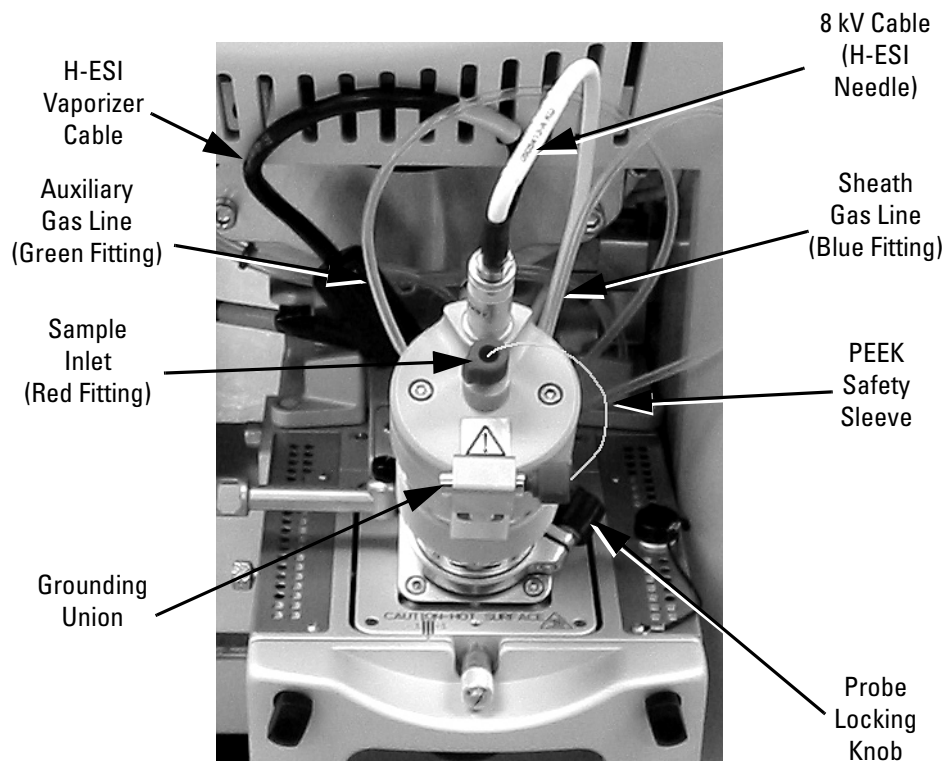

Figure 6-3. H-ESI probe installed on the Ion Max housing
2. Disconnect the sample transfer tubing (LC line) from the grounding union (stainless steel ZDV fitting). See Figure 6-3.